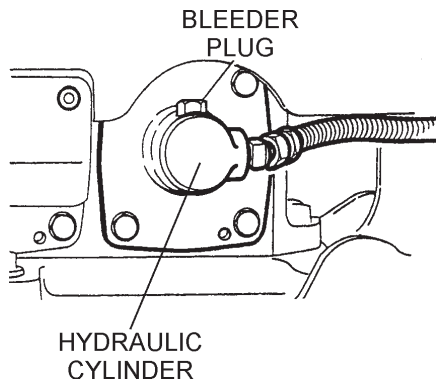

Figure 30. Bleeder Plug
- Loosen bleeder plug located at top of hydraulic cylinder on side of vibrator (Figure 30). Air remaining in the circuit will be forced out of the bleeder plug. Once all air has been purged from the hydraulic system, tighten bleeder plug securely